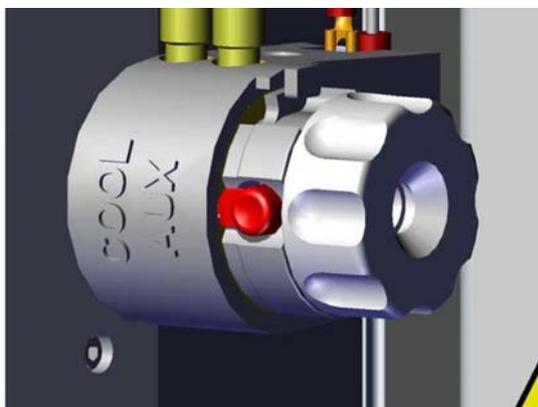

Figure 6-9. Insertion of the torch assembly into the box
6. Insert the torch holder into the torch box. Turn the metal torch holder clockwise until the red orientation lock self locates in the torch box casting. See Figure 6-9.